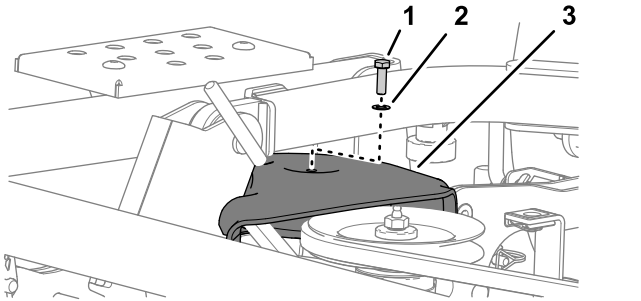

Figure 117
2. Remove the bolt and washer that secure the pulley cover to the mower deck (Figure 117).
1. Align the pulley cover over the right-most pulley; refer to Figure 117 in Removing the Pulley Cover \(page 77\).